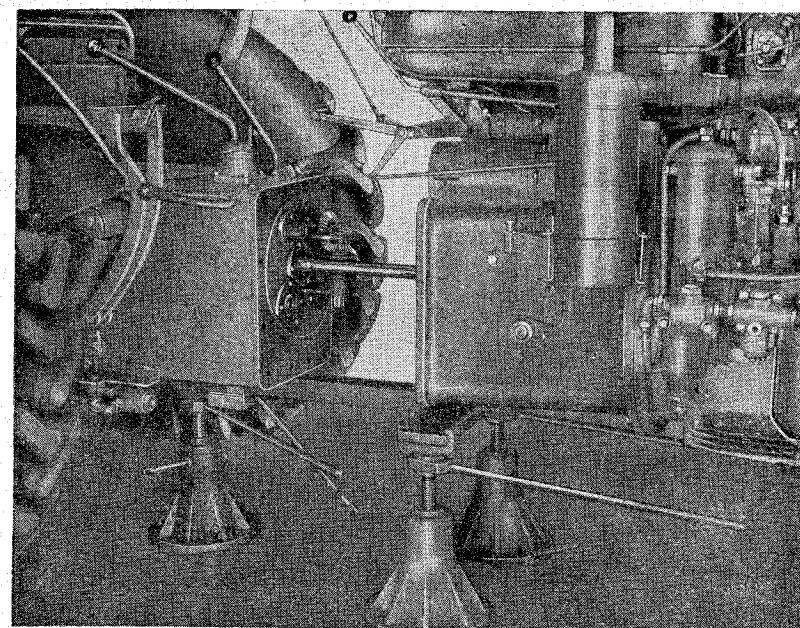

Fig. 11.
When reconditioning the clutch housing or the gearbox as well as any components housed in them disconnect the gearbox (see Fig. 11) proceeding as follows:
6. Place one plain jack under the gearbox and two jacks complete with support (see Fig. 11) under the clutch or bell housing. Using a tommy bar screw up the rear jack so as to raise the gearbox slightly.